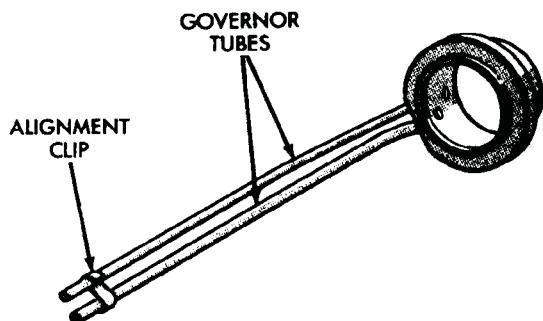

Fig. 71 Positioning Governor Tube Alignment Clip
- (15) Install alignment clip on governor tubes (Fig. 71). Slide clip up against shoulder on each tube.